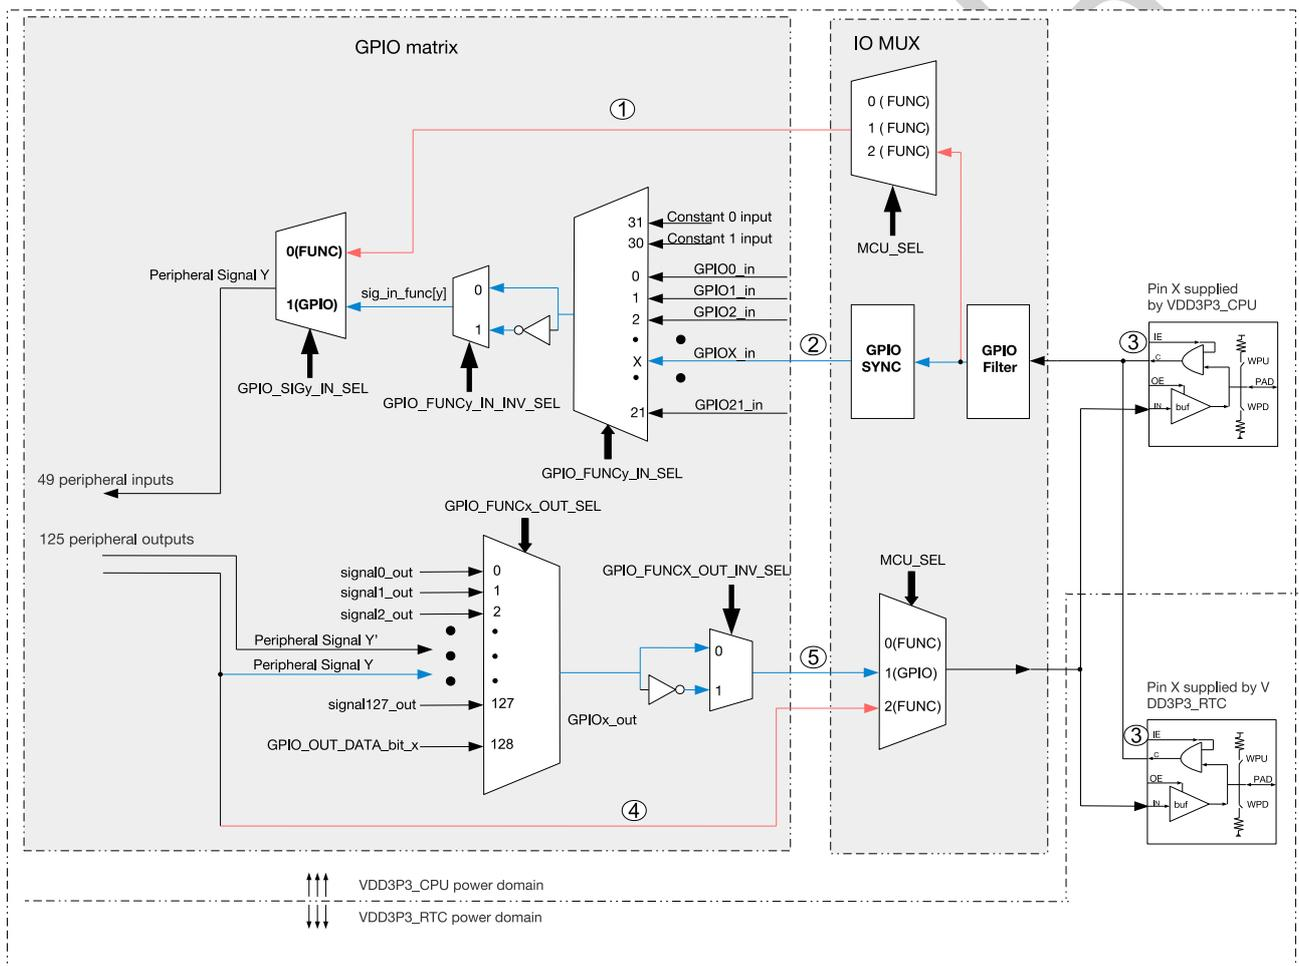

Figure 5-2. Architecture of IO MUX and GPIO Matrix
- Figure 5-2 shows in details how IO MUX and GPIO matrix route signals from pins to peripherals, and from peripherals to pins.
When signals are directed from pins using GPIO matrix, the signals will be synchronized to the APB bus clock by GPIO SYNC hardware, then go to GPIO matrix. This synchronization applies to all GPIO matrix signals but does not apply when using the IO MUX, see Figure 5-2.
Some of the 125 output signals (0 ~ 59, 63~ 127) can be set to go through GPIO matrix into IO MUX and then to a pin. Figure 5-2 illustrates the configuration.